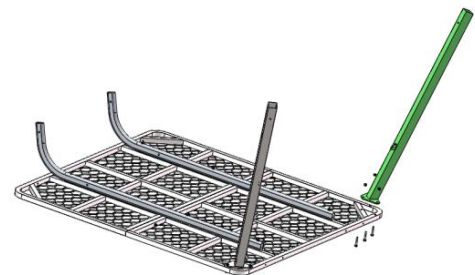

Figure 4
Step 4: Attach the left upper leg (TS305.09) to the platform by using three 1/4"-20 × 1-1/2" bolts (48240B) and three 1/4" lock nuts (48752B). Leave these hand tight for now (**Figure 4**).